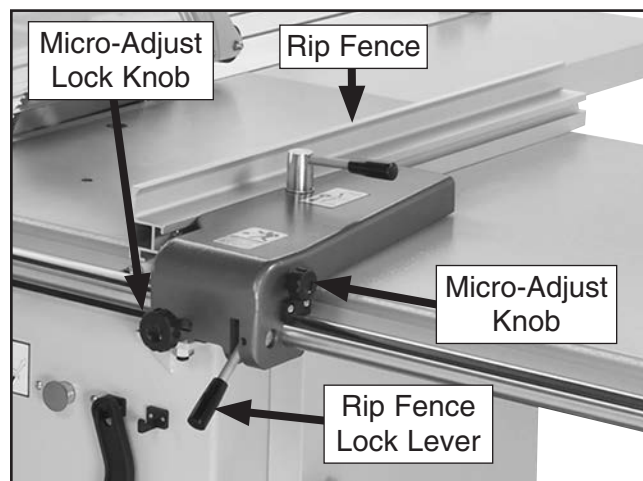

Figure 114. Proper position of rip fence.
5. Position leading edge of rip fence so it extends across extension wing, as shown in **Figure 114**, then retighten lock lever.
6. Lift rip fence lock lever (see **Figure 114**) and adjust fence to approximate width of cut.
7. Tighten micro-adjust lock knob (see **Figure 114**), then turn micro-adjust knob to fine tune width of cut.